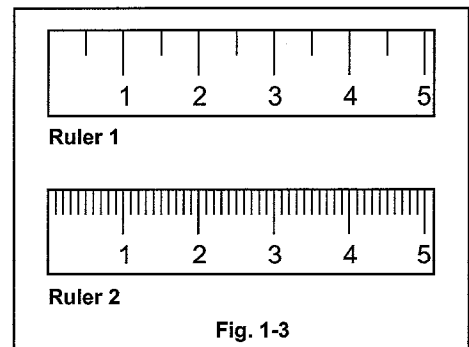

Fig. 1-3
**Example 2:** Look at the two rulers on the right in figure 1-3. Ruler 1 is marked to the nearest half a centimeter. Ruler 2 is marked to the nearest millimeter.